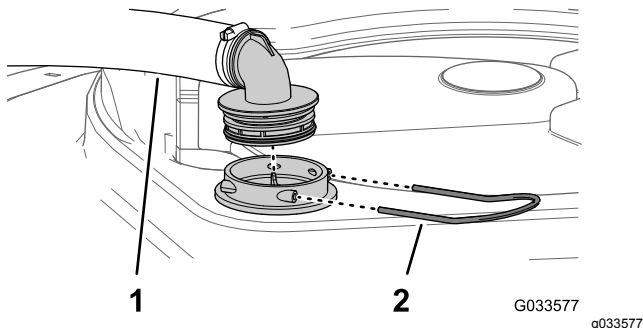

Figure 97
2. At the top of the sprayer tank, remove the retainer that secures the hose fitting attached to the large hose from the filter housing (Figure 97).
3. Remove the hose and hose fitting from the filter housing (Figure 97).